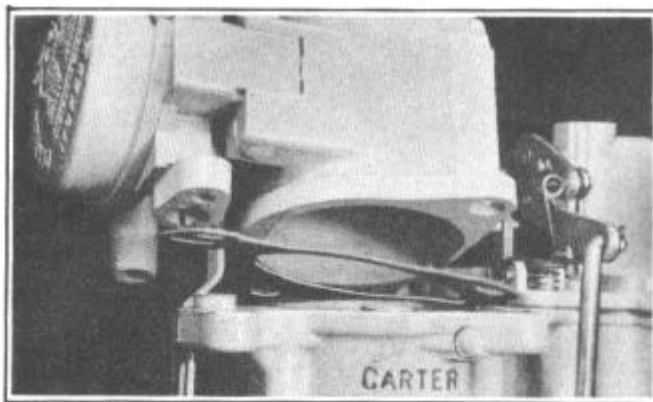

FIGURE 17
2. Remove air horn and climatic control assembly, Figure 17, and lift off air horn gasket.